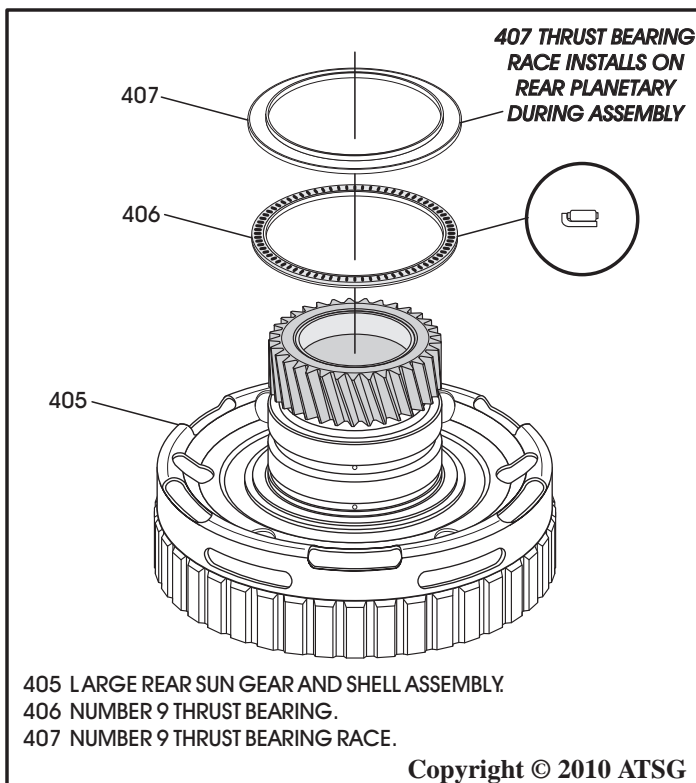

Figure 116
6. Install number 9 thrust bearing on sun gear shell, with needles facing up, as shown in Figure 116, retain with Trans-Jel®.